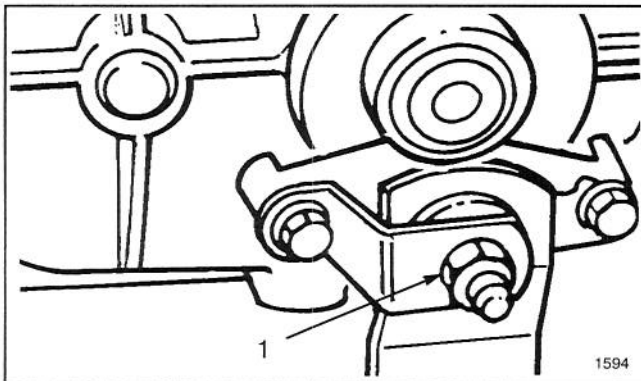

Figure 23
3. Tighten locknut approximately 1/4 turn clockwise (Fig. 23).